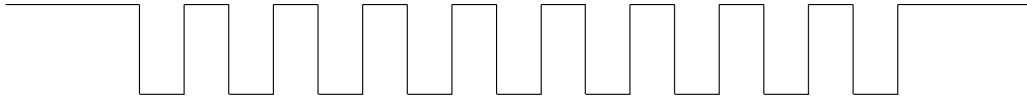

Figure 38.5-3. Master Clock Negative Waveform
- **Scenario 3:** The clock sent by the master device is not a free-running clock, and the clock waveform is as shown in Figure 38.5-3.